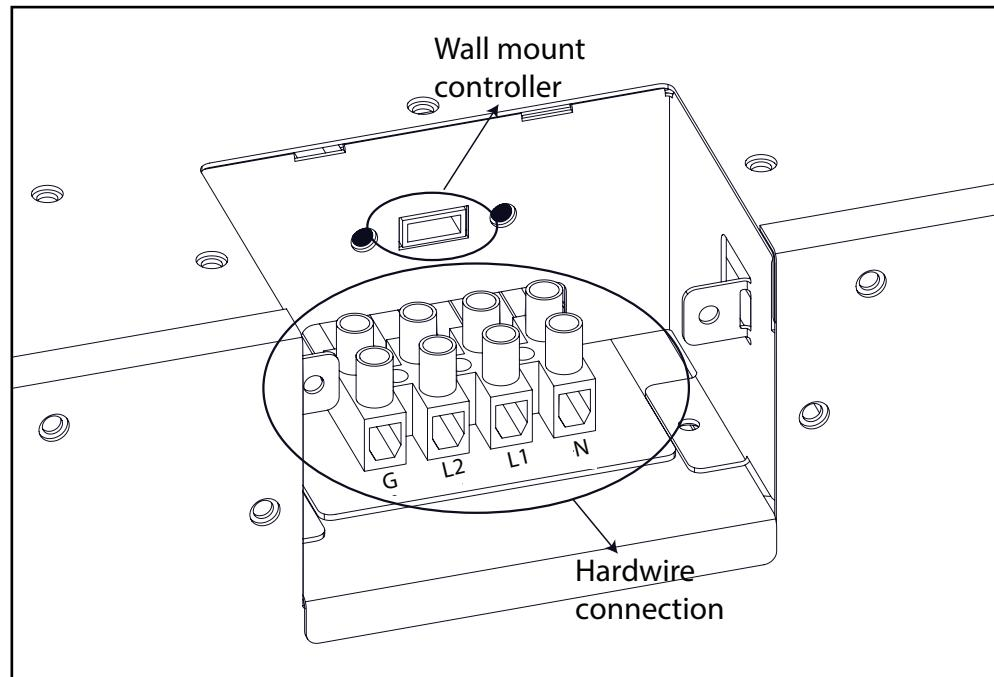

Fig. 4
- Locate the desired 2 conductor or 3 conductor wire cable to the top right side of the enclosure for the hard-wiring installation based on the desired 120V or 240V heat output capability (**Fig. 4**).